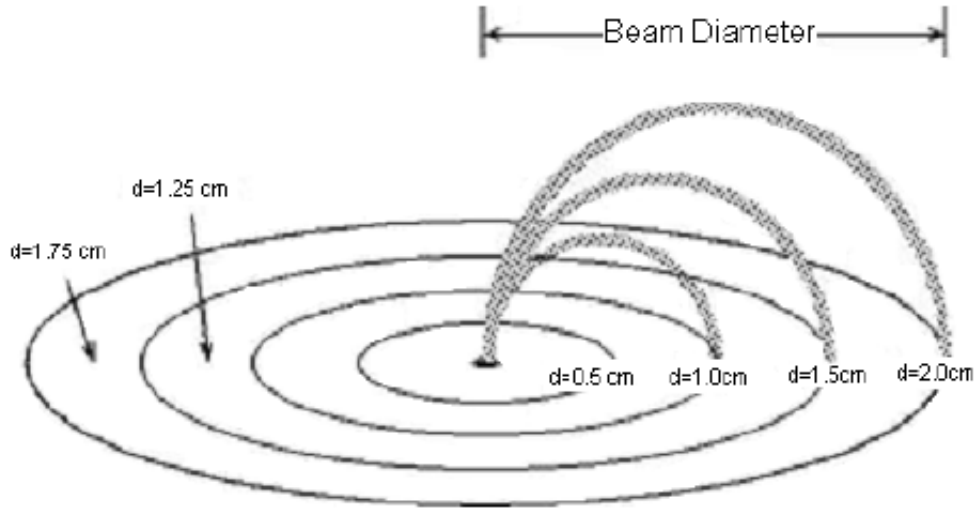

Figure 4
- 6** Repeat step 5, keeping the accelerating voltage fixed, but increasing the Helmholtz coils current until the beam path has a diameter of 1.75, 1.5, 1.25, and 1.0 cm as shown in Figure 4. Measure and record the current corresponding to each of the diameters. For the 1.75 and 1.25 cm diameters, the electron beam must strike at the mid-point between two target rings.